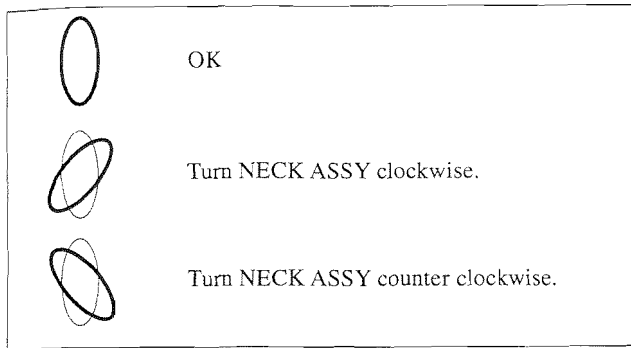

Fig. 4-5
- (1) Receive dot/hatch pattern.
- (2) Turn FOCUS VR fully counter-clockwise.
- (3) Confirm the dot shape at the screen center. (Fig. 4-5)
- (4) Resume FOCUS VR.